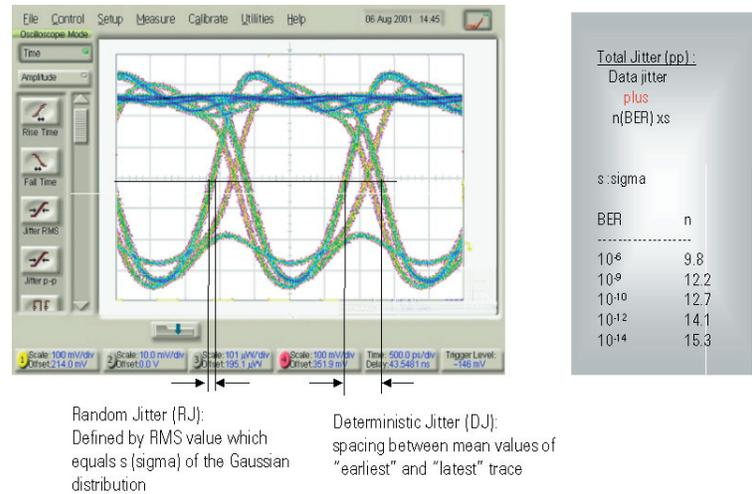

Figure 4: A real signal
Jitter consists of two fundamental components called Random Jitter (RJ) and Deterministic Jitter (DJ). Figure 4 illustrates an example of a signal with an extremely large amount of DJ. Random Jitter is unbounded and is usually best described by a Gaussian probability density function. Deterministic jitter is bounded, ie it has definite amplitude limits from an earliest to a latest trace. The Random Jitter (RJ) is defined by an rms value which in this case equals the 's' (sigma) of the Gaussian distribution. The total jitter is a function of 'n' times the rms value, depending on what BER limit a system is specified, plus the Deterministic Jitter (DJ) which is by nature a peak-to-peak value.